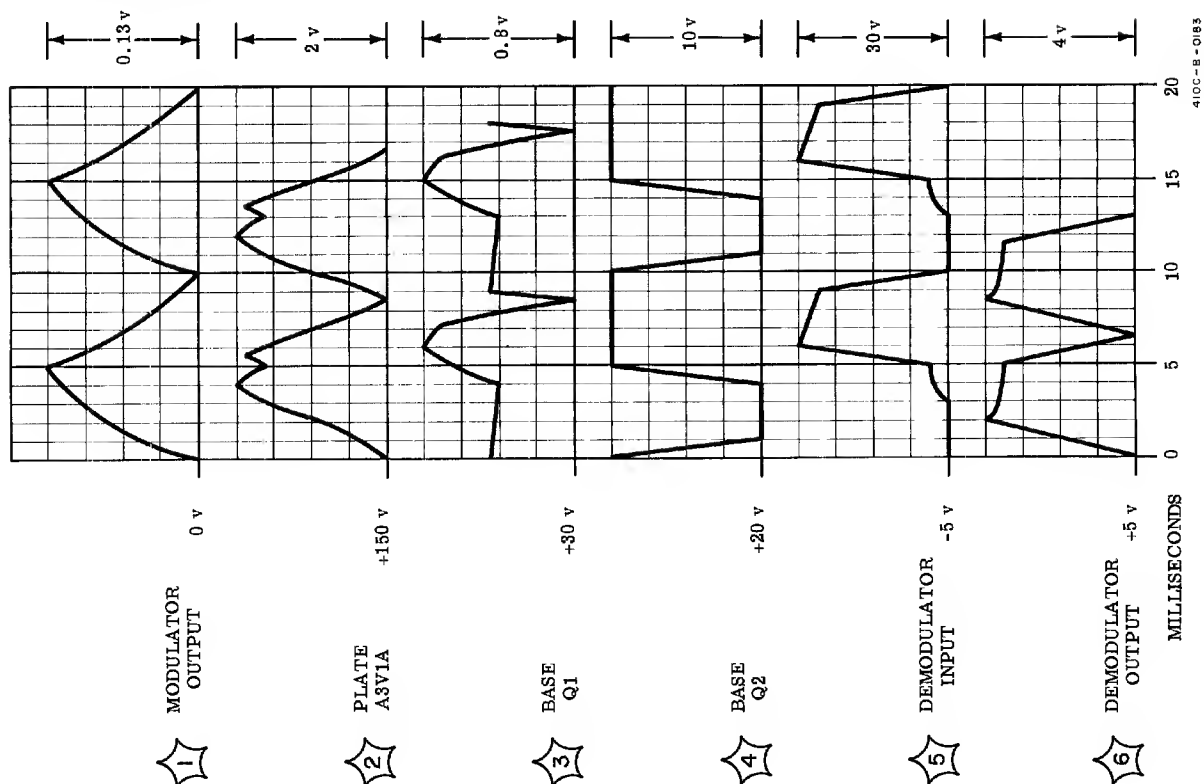
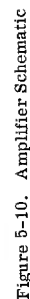

Figure 5-9. Typical Amplifier Waveforms
Figure 5-10. Amplifier Schematic
5-44. Refer to Figure 5-9 for typical waveforms encountered in the Model 410C. Waveforms represent signals which occur when instrument is operating during overdriven conditions (.5 vdc input to .015 v RANGE).
- ③ Measure the dc voltage at the DC AMPLIFIER OUTPUT on Model 410C rear panel. Under overdriven conditions specified, output should be approximately +4.0 v. If this measurement is correct, proceed to ④; if not, proceed to ⑤.
- ④ Trace circuit from Pin 11, A3 to Pin 2, A6. Use ohmmeter to check values of A6R21, A6R20, A6R17 and A6R1. Refer to Figure 5-10 for pertinent component and dc voltage values.
- ⑤ Measure the dc voltage at Pin 1, A3. This voltage is typically 13-15 mv. If this voltage is correct, proceed to ⑥; if not, proceed to ⑦.
- ⑥ Investigate switch circuit. Refer to astericks in Table 5-9 for hints on how to troubleshoot switch circuit.
- ⑦ Observe input voltage to demodulator using an oscilloscope. Refer to Figure 5-9 for normal waveform under overdriven conditions specified. If waveform is normal, proceed to ⑧; if not, proceed to ⑨.
- ⑧ Investigate the demodulator and cathode follower A1V3B. Refer to Figure 5-10 for typical voltage and parameter values. Refer to Table 5-9 for method to check for open demodulator.
- ⑨ Investigate the modulator and amplifier to include A1V1A, Q1 and Q2. Refer to Figure 5-10 for typical voltage and parameter values. Refer to Table 5-9 for method to check for open modulator.